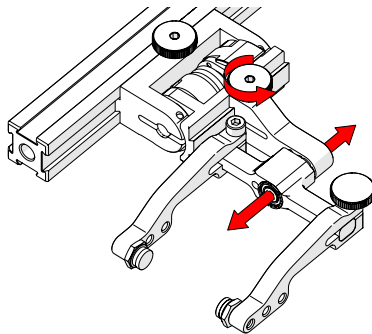

Fig. 37 - Adjust swing arm
3. Use the swing arm knob to position the swing arm (Fig. 37).